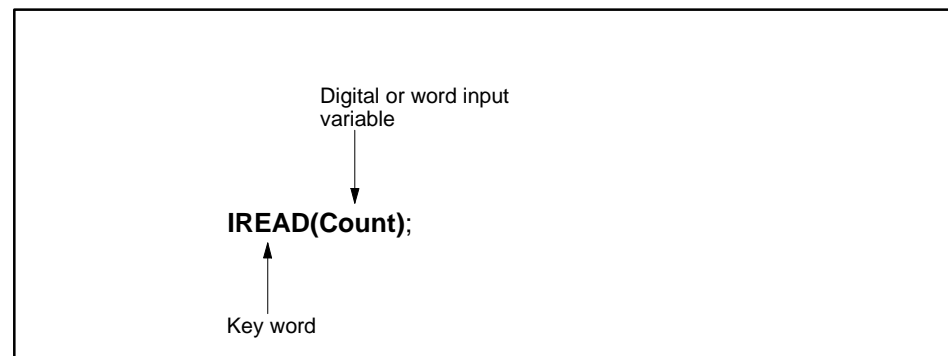

Figure 11-25 IREAD Procedure
- The variable in parentheses must be a digital or word input from a supported module in base 0 for Series 505 controllers; the module can be located in any base for an S5 controller. See the example in Figure 11-25.